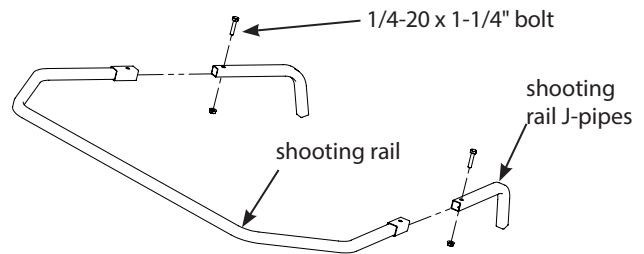

Figure 16
11. Insert the shooting rail J-pipes (410113) into the shooting rail front (410065) and secure together using (2) provided 1/4-20 x 1-1/4" bolts and locknuts. **SEE FIGURE 16.**